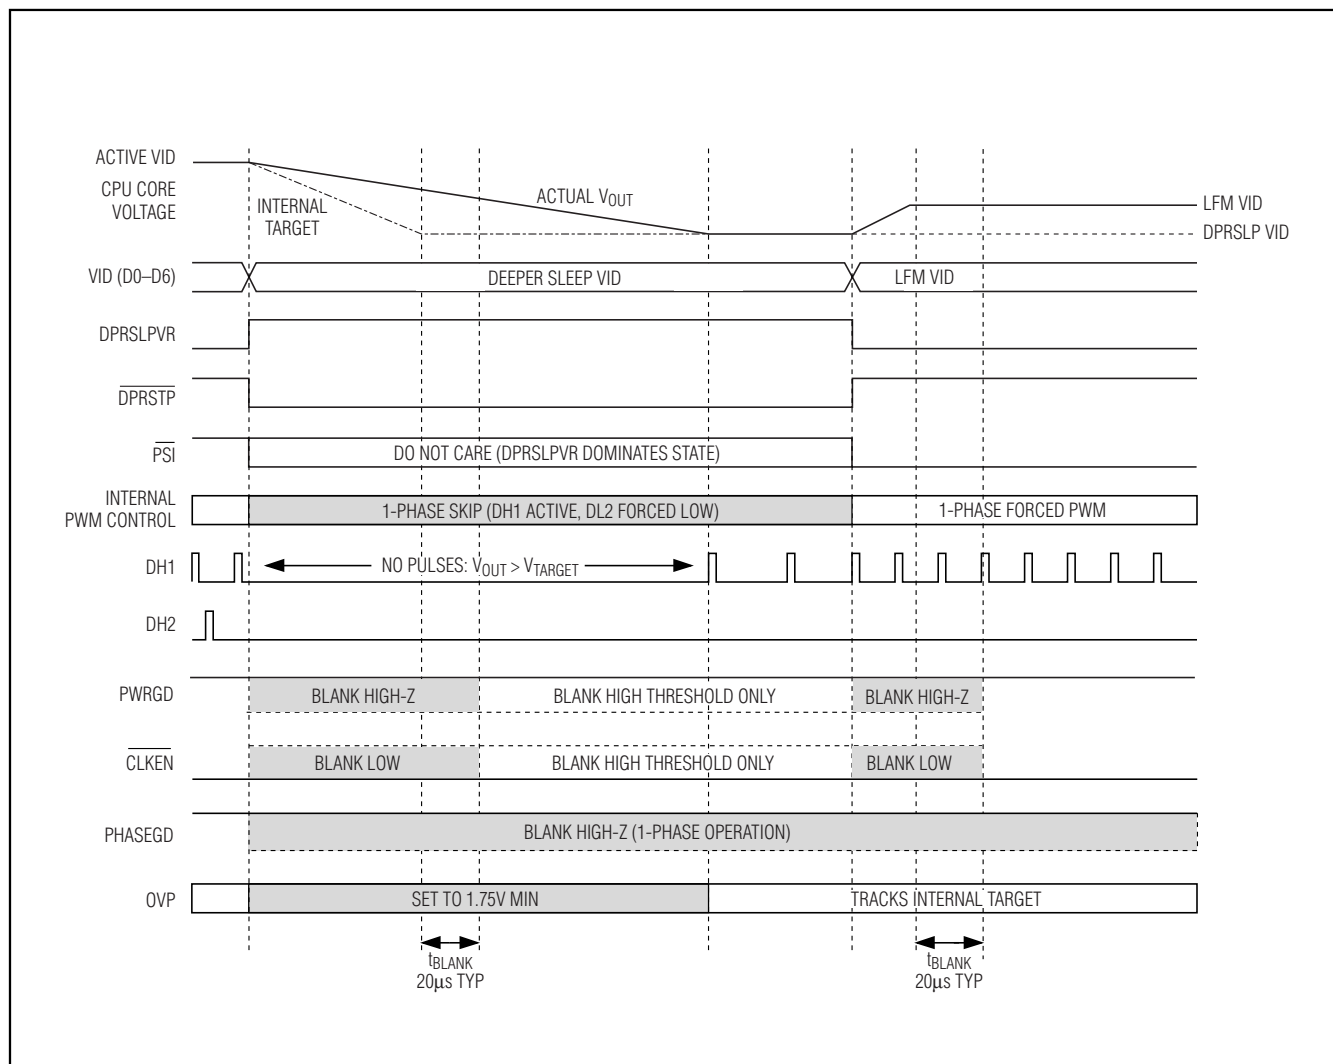

Figure 5. Standard C4 Transition
- Standard C4 Deeper Sleep Exit:** When exiting deeper sleep (DPRSLPVR pulled low) while the output voltage is regulating to the deeper sleep voltage, the MAX8770/MAX8771/MAX8772 immediately activate all enabled phases and ramp the output voltage to the LFM DAC code provided by the processor at the slew rate set by R_{TIME} . The controller blanks PWRGD, PHASEGD, and \overline{CLKEN} (forced high impedance) until $20\mu s$ after the transition is completed. See Figure 5.